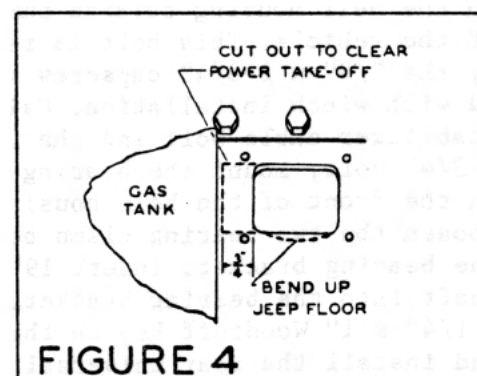

FIGURE 4
2. Remove the power take-off lever hole cover in vehicle floor. If it is a Model 150J winch assembly with a Model 50 power take-off, or Model 158J winch assembly with a Model 58 power take-off, it is necessary to cut hole in vehicle floor  $3/4"$  wider to the left side of vehicle. The vehicle floor must also be hammered up slightly in order to clear power take-off, (Fig. 4). Installing Model 151J winch assembly with a Model 51 power take-off, it is not necessary to cut or hammer vehicle floor.